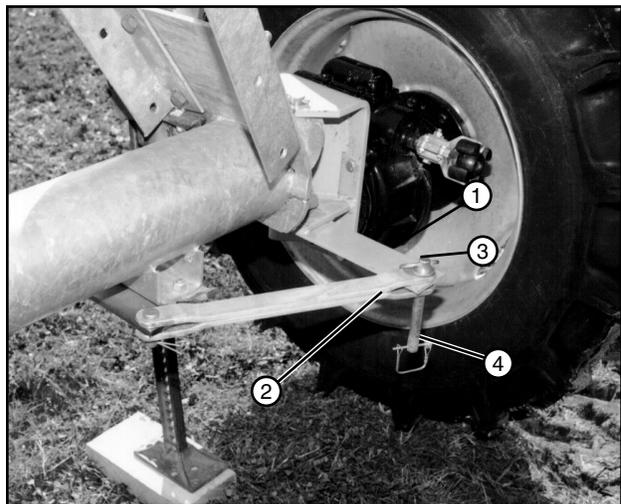

Figure 64-2 1. Steering Arm 2. Tow Link Bar Yoke 3. Torque Pin 4. Lynch Pin
2. Position steering arm in tow link bar yoke, align holes, then attach steering arm to tow link bar with torque pin. Secure torque pin with lynch pin. See Figure 64-2.